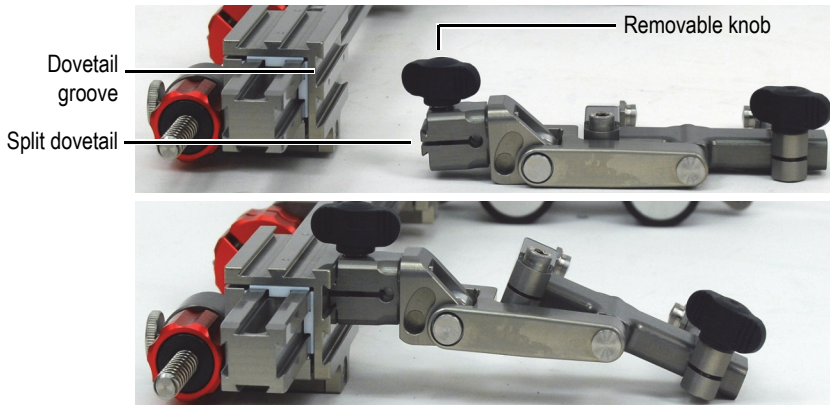

Figure 2-9 Installing a probe holder
3. Clamp the probe holder in place by rotating the removable knob counterclockwise (see Figure 2-9 on page 42).